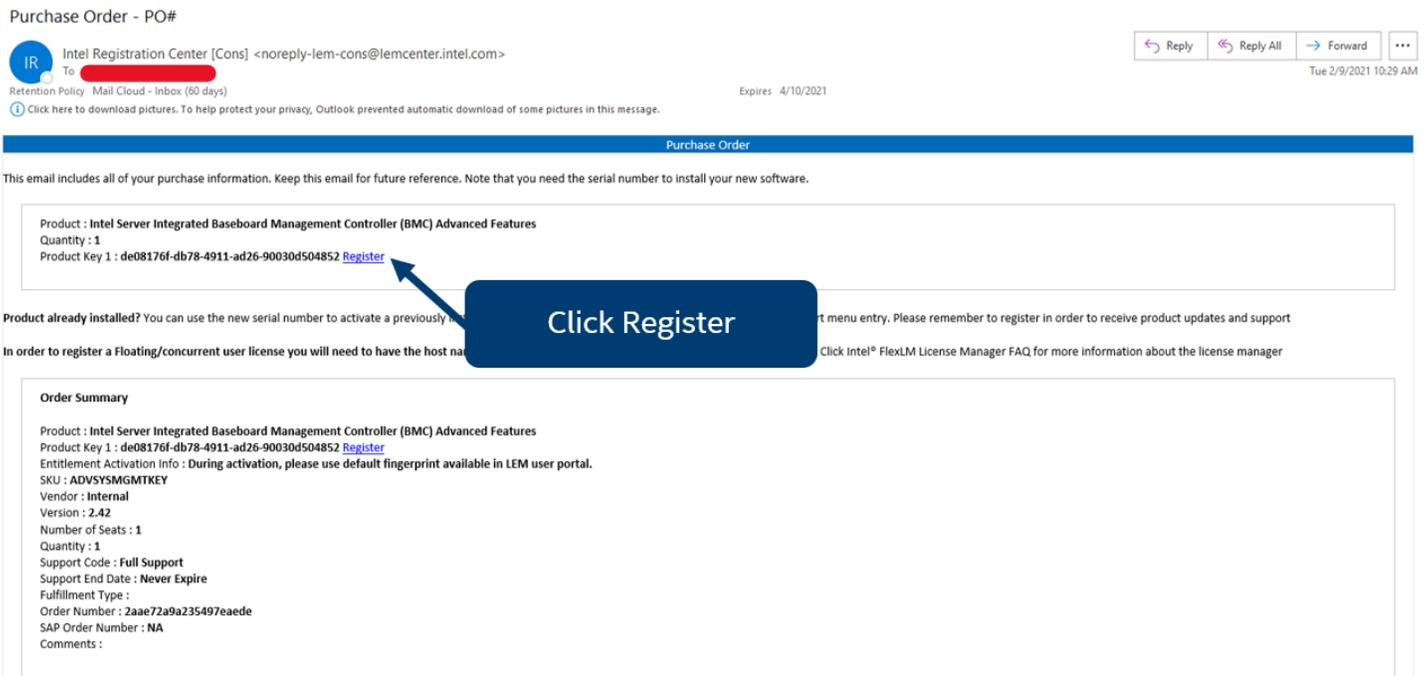

Figure 54. Example Email
3. From the email, Click the **Register** link (see Figure 54) to go to <https://lemcenter.intel.com>